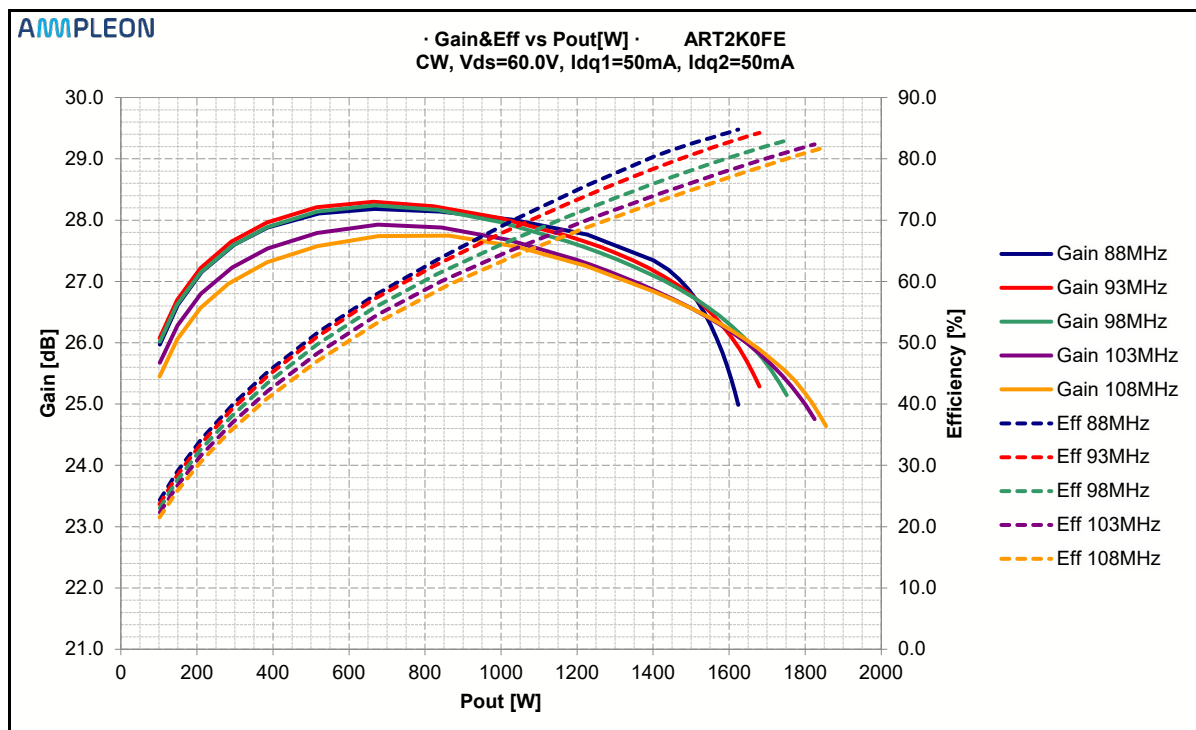

Figure 2 CW (Vds=60V) Gain and Efficiency vs Pout [W]
- 3. List of figures 2
- Figure 2 CW (Vds=60V)Gain and Efficiency vs Pout [W] 6